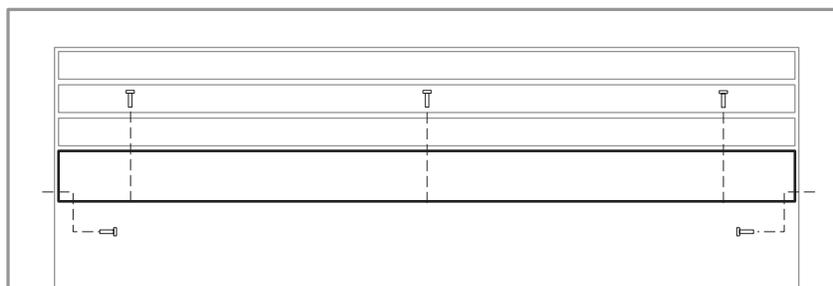

Figure 3 - Installing Canopy
2. Align canopy with the holes in the top frame assembly. *See Figure 3.*
3. Install the five (5) screws (in owner's manual packaging) which attach the canopy to the top frame assembly. *See Figure 3.*